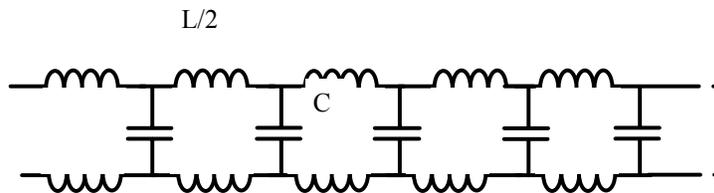

Figure 2.
**Transmission lines:** So what makes transmission lines so special? Consider a long straight wire or trace with its return wire or trace nearby. The wire has some inductance along its length. There is also some capacitive coupling between the wire and its return. Figure 2 shows what we call a "lumped" model of the wire pair, because we show the capacitors and inductors as lumped components. In reality, the inductance and capacitance are spread continuously along the wires. But we don't know how to show that in a drawing, so we approximate it with a lumped model. Every incremental inductance is equal to every other one, and every incremental capacitance is equal to every other one. On the other hand, we are going to think of this wire as being infinitely long. Therefore, the part shown in Figure 2 is just an infinitely small part of the total length!